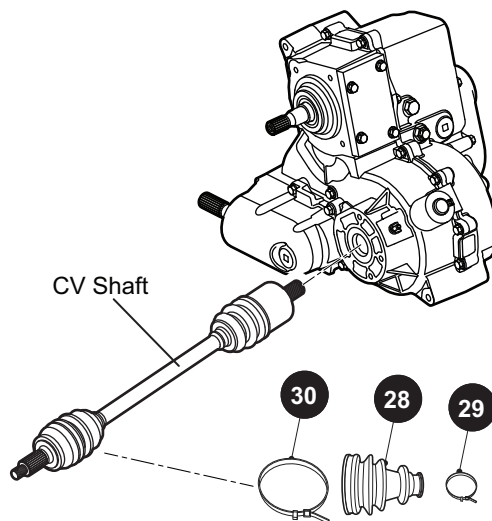

Fig. 8 CV Boot Replacement
2. Inspect the inner and outer CV joint boots (28) for damage.
3. Cut the CV joint boot clamps (29) and (30).
4. Remove the CV joint boot (28).
5. Replace the new boot and clamps in the reverse order of removal (Ref. Fig. 8).